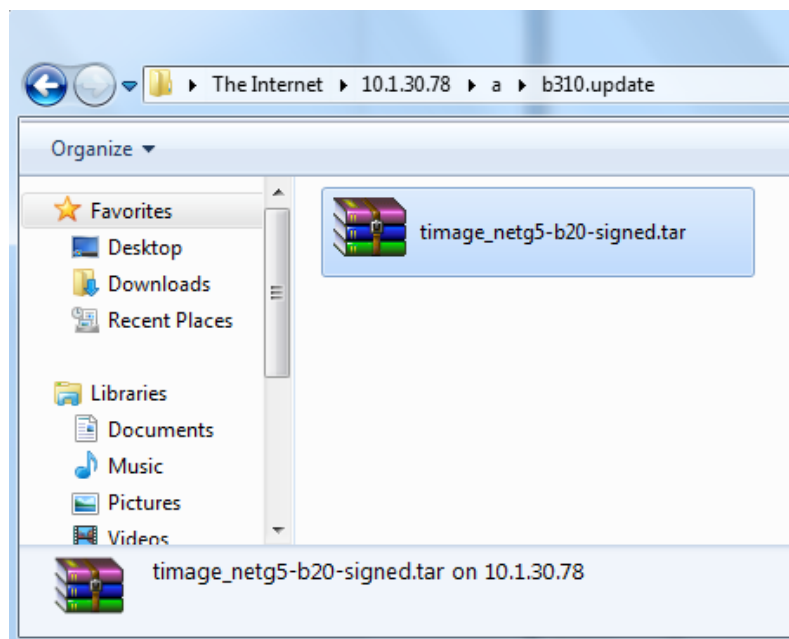

Figure 17: Locate the Firmware File
5. Open another instance of Windows Explorer and locate the appropriate *.tar file (Figure 17).